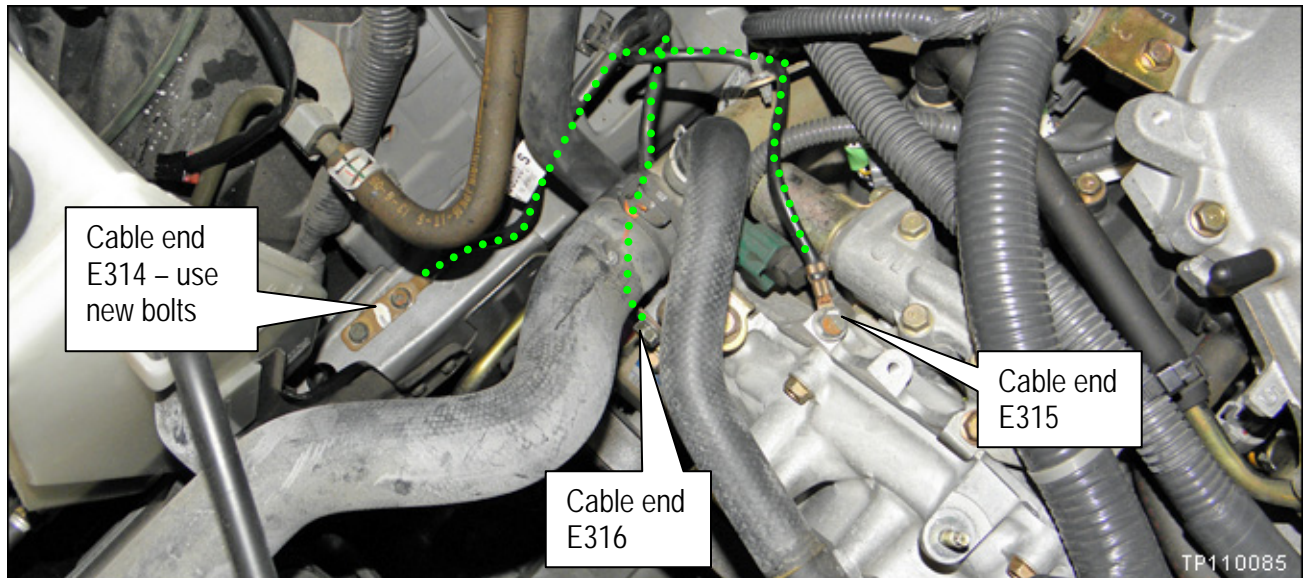

Figure 5
10. Replace the negative battery cable (body to engine). See Figures 5, 6 and 7.